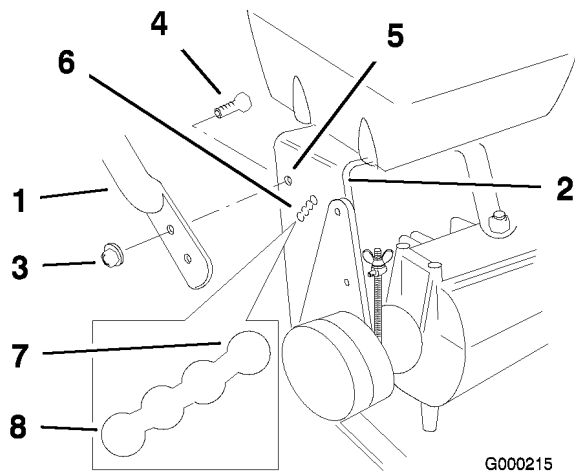

Figure 27
2. Loosen the upper flange bolts (3/8 x 1 inch) and flange nut securing handle to rear frame (Figure 27).
3. Remove the lower flange bolts (3/8 x 1 inch) and flange nuts securing handle to rear frame (Figure 27).